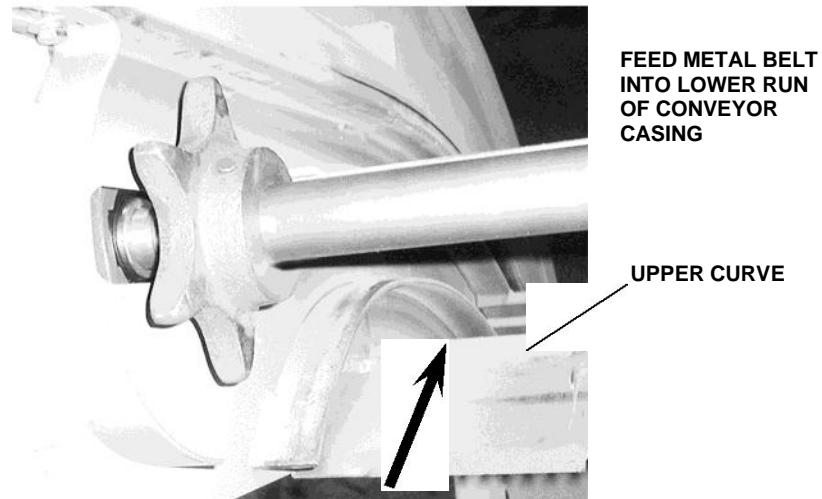

Figure 18: Installing the metal belt
2. Feed the end of the metal belt assembly into the lower run of the conveyor casing through the discharge section (Figure 18). Be sure that the wings face downward; i.e. the bottom of the conveyor.